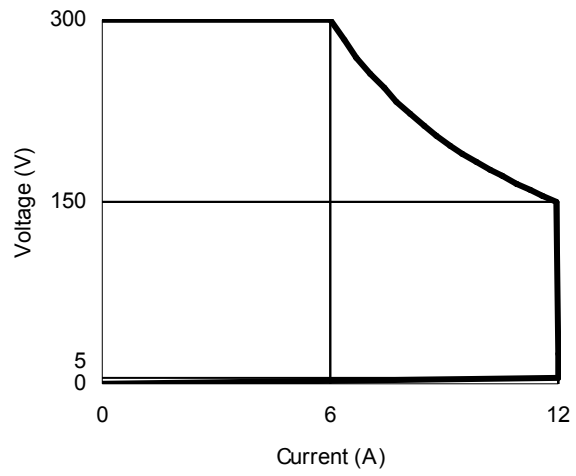

Figure 1-4 SLH-300-12-1800 Electronic Load Power Curve
- Figure 1-4 SLH-300-12-1800 Electronic Load Power Curve 1-3